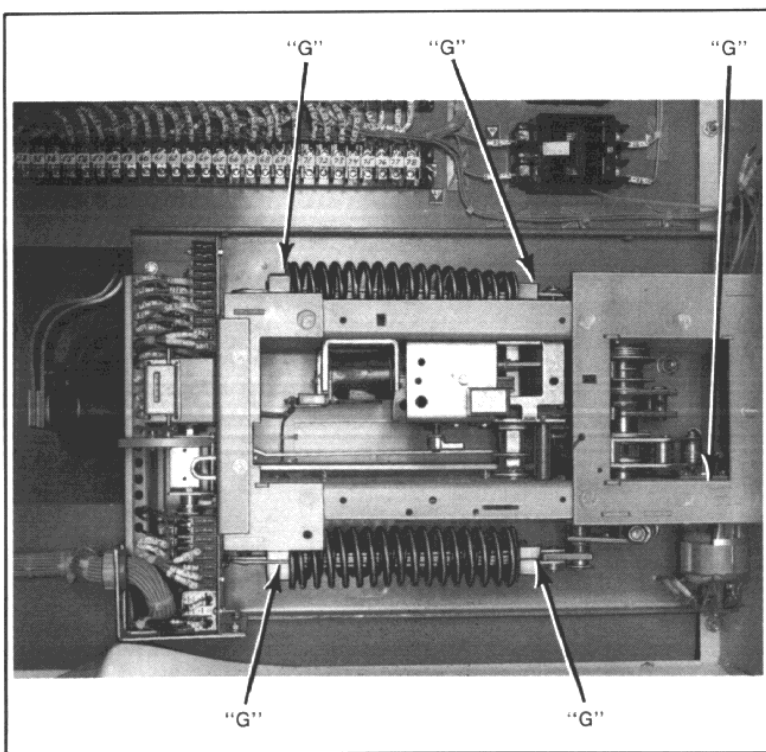

Figure 8
2. The spring guides and gears designated "G" should be greased lightly with a low temperature grease such as automotive molybdenum disulfide. (Figure 8)